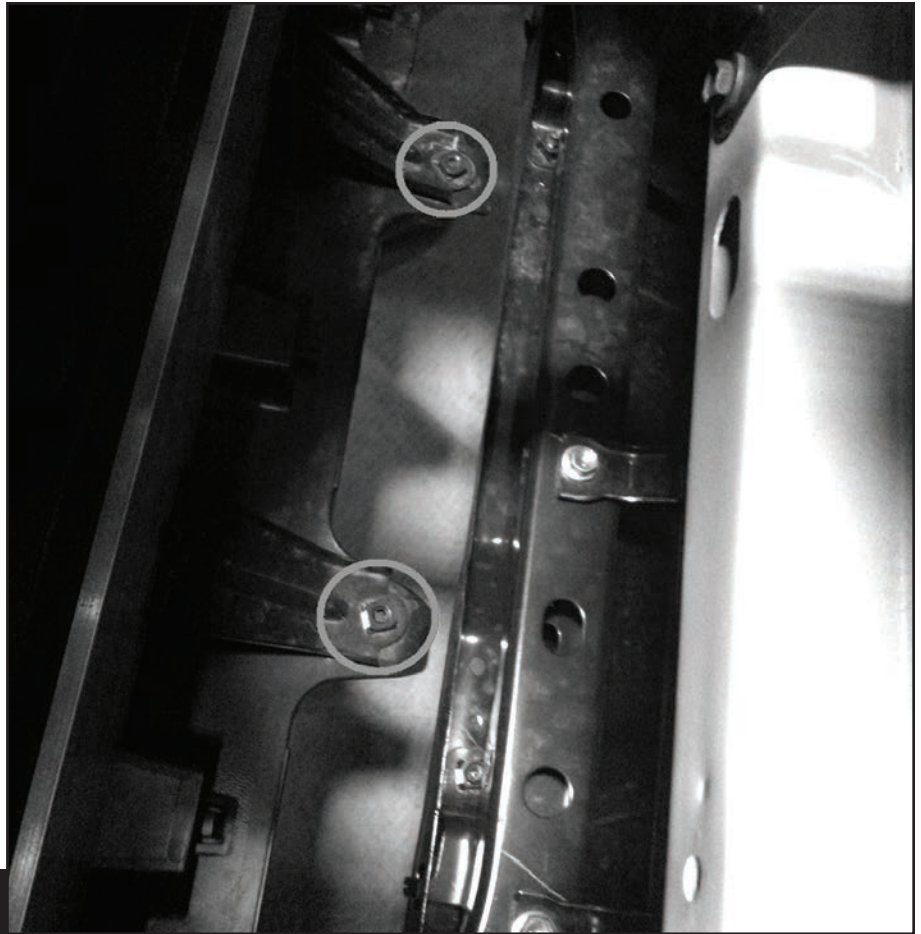

Fig 6
6. Remove and discard (2) bolts on the underside of the bumper cover attaching it to the crash bar (**Fig 6**).